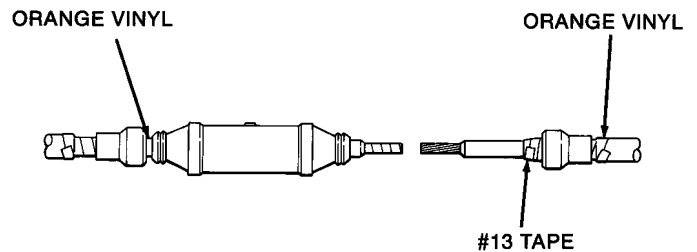

Figure 3
5. Lubricate bore of splice with silicone grease and install onto cable "X" leaving conductor exposed for connector (Figure 3).